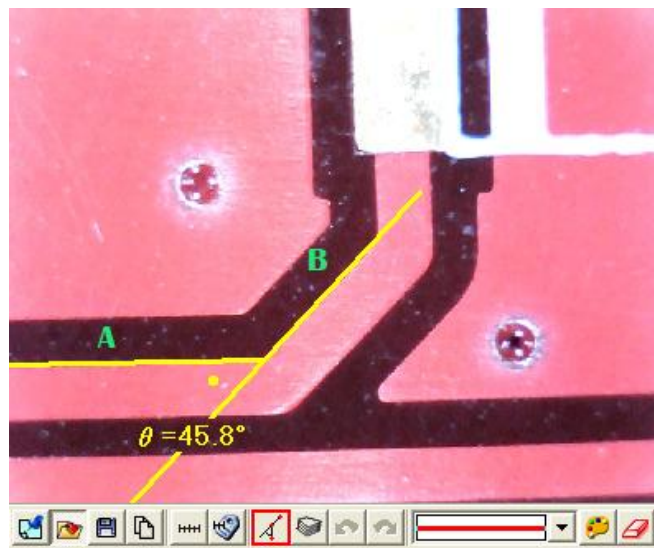

Fig 5-71 3 Points Chamfer
- (2) 3 Points Chamfer: Measure chamfer and use . Draw first line on the angle (see line A) and press the left mouse button to drag a line on the other side of the angle (See line B) to calculate the chamfer. See Fig 5-71.. There is a small dot inside the chamfer and shows  $45.8^\circ$ .